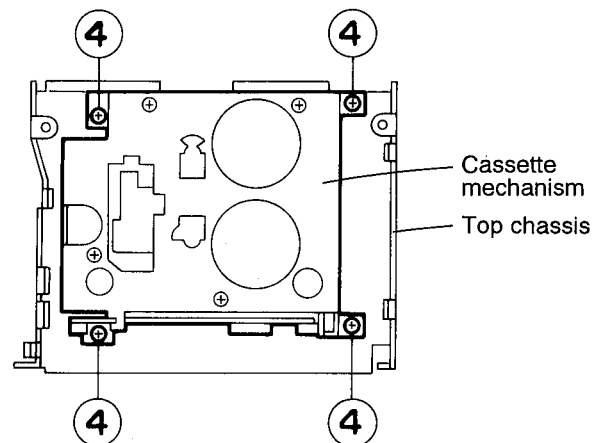

Fig. 4-7
■ Removing the Cassette mechanism assembly (See Fig. 4-7)